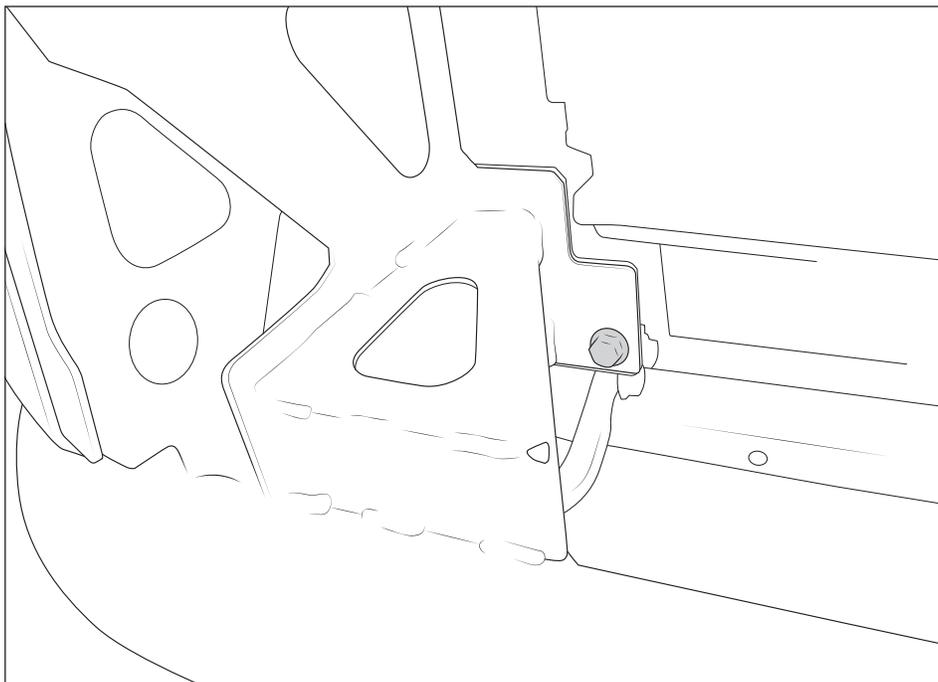

Figure 12
4. Carefully lift your new AEV Bison Bumper into place. From the front, install an M10 bolt through the bumper and into the OE hole location on each side (fig 12).